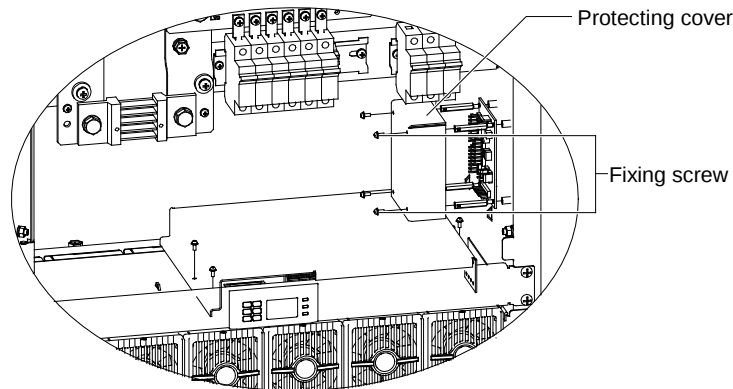

Figure 5-5 Removing the protecting cover
1. Remove the fixing screws of the protecting cover. Remove the protecting cover, as shown in Figure 5-5.